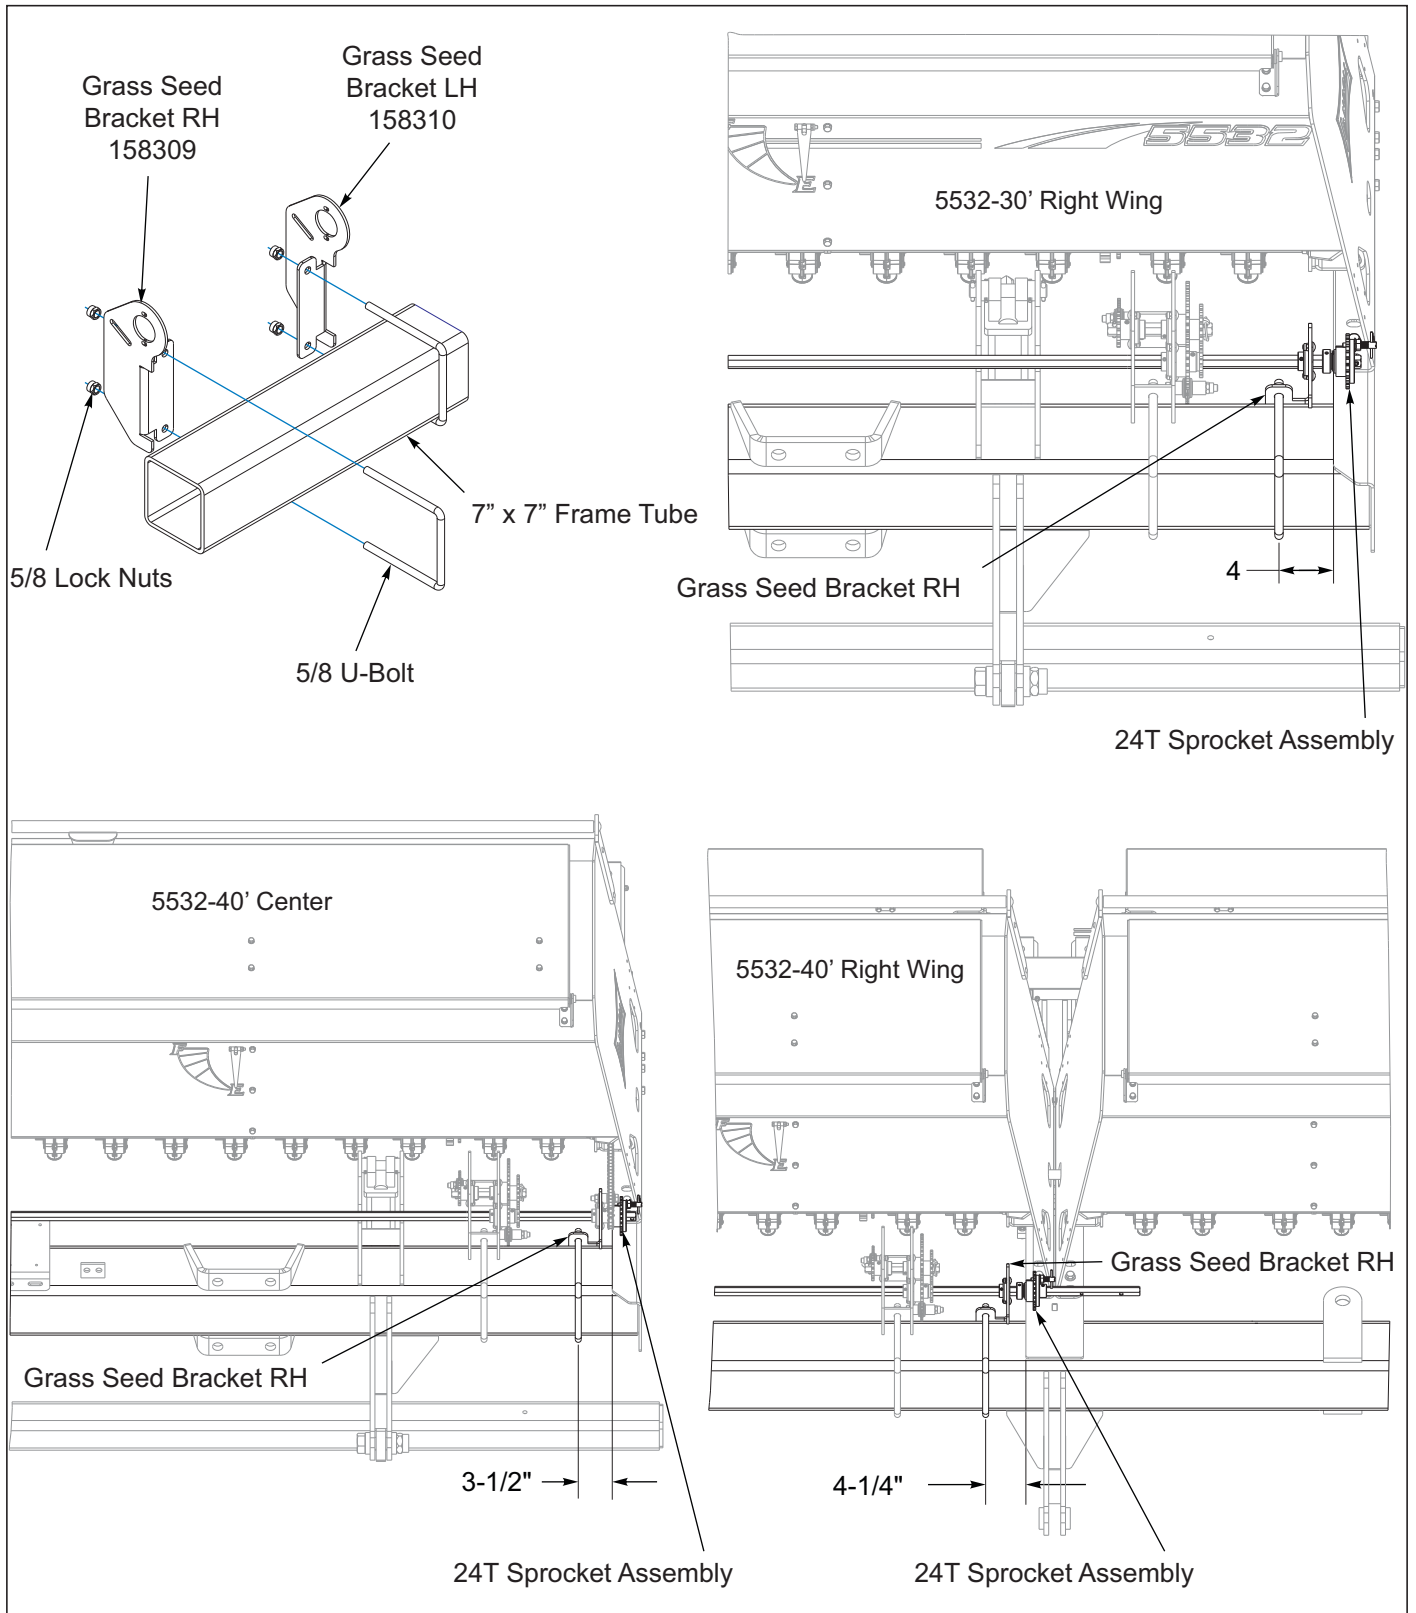

Figure 3-5: Small Seed Bracket Placement
12. Remove existing 7/8 hex drive shaft above the drill 7 x 7 frame tube. Install the grass seed bracket and bearing to the rear of the main drill 7 x 7 frame. **See Figure 3-5 for proper placement.** Reinstall the hex drive shaft, see placement dimensions.
13. Install the 24 tooth drive sprocket and locking set screw on the end of the hex drive shaft **See Figure 3-5 for proper placement.**
and 5/8 nuts. Attach the brackets as shown, **See Figure 3-5** for locations 5531-30'-40'.